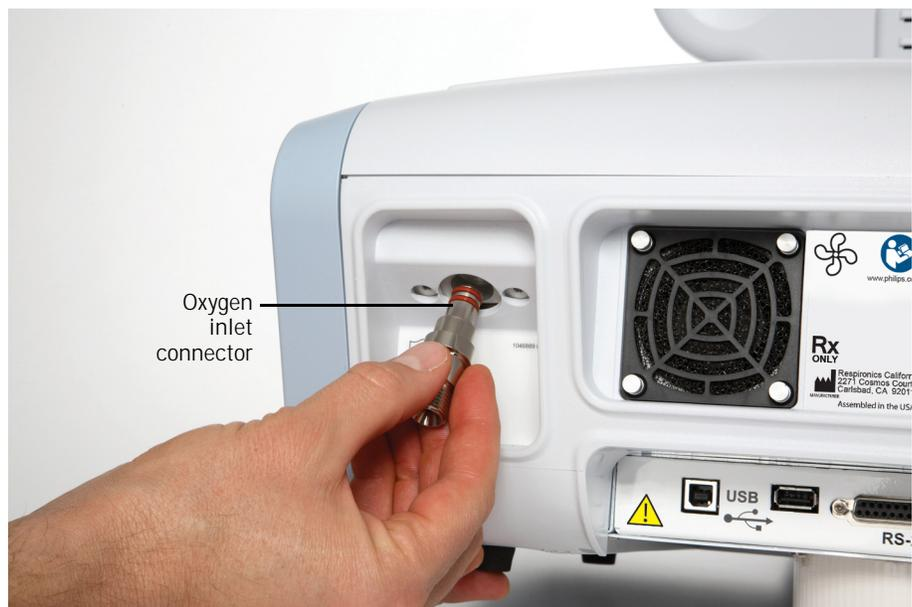

Figure A-4: Installing the oxygen inlet connector
1. Install the oxygen inlet connector as follows (Figure A-4):